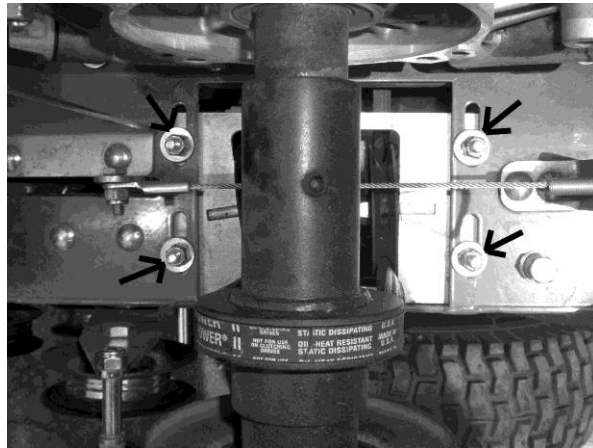

Figure 11.
2. Loosen all four nuts shown in figure 11.